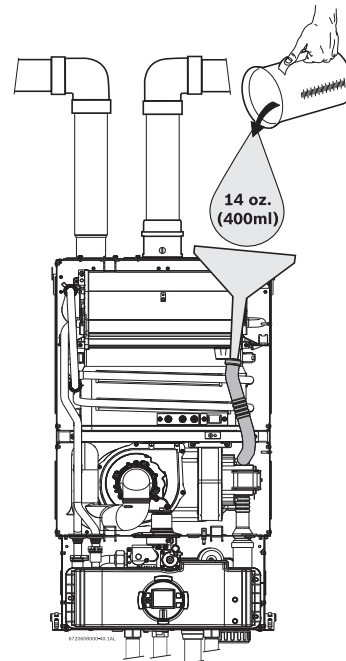

Fig. 32 Filling the condensate trap after installation
- Fill the condensate trap by pouring approx.14 oz. (400ml) of water into the top of the drain tube. To avoid damage to the appliance use a funnel in this operation, see Fig. 32, page 27.